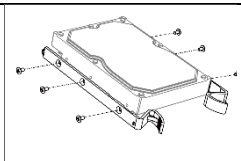

Figure 2-4 Fix Mounting Ear
Step 1 Fix mounting ears to HDD with screws. Refer to Figure 2-4.